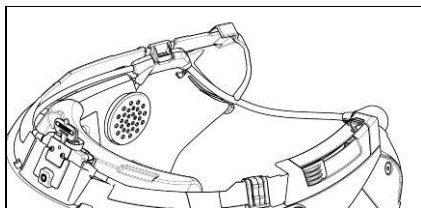

Fig. 4
- Position the microphone in the housing on the left of the helmet, inserting the metal boom in the groove found in the chin guard coupling frame (Fig. 4).